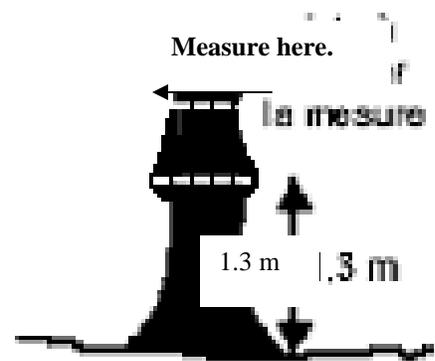

Fig. 7. Deformity at DBH; measure immediately above.
- If a tree whorl, deformity, distortion, or branches are present or a fork occurs just below DBH (within 5 cm), the **cruiser must measure the diameter immediately above the irregular section** (see Fig. 7). **(Note in comments section how far up in centimeters from original DBH the new DBH location is)**. This is a source of major DBH measurement error and must be practiced consistently across every trial measurement.